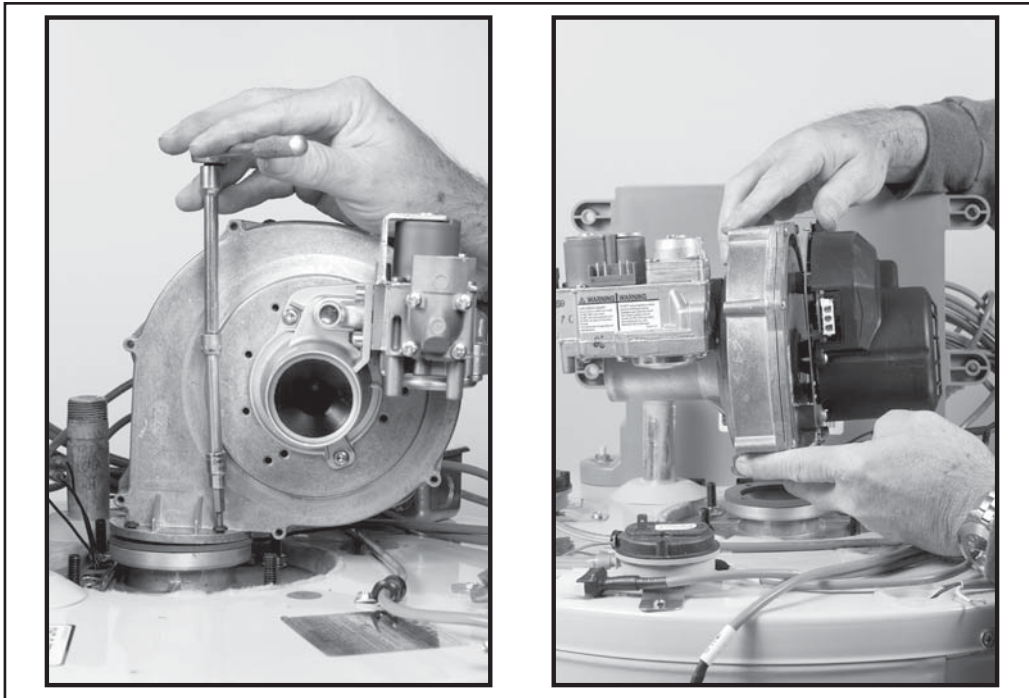

Figure 15
12. Using a small socket wrench with a 1/8 inch hex attachment or a long (8-10") T handle 1/8 inch hex (allen key) wrench remove the four hex head machine screws that hold the Combustion Blower to the Burner Adapter, see Figure 15 on page 16.
13. Lift the Combustion Blower up and off of the Burner Adapter, see Figure 15 on page 16.